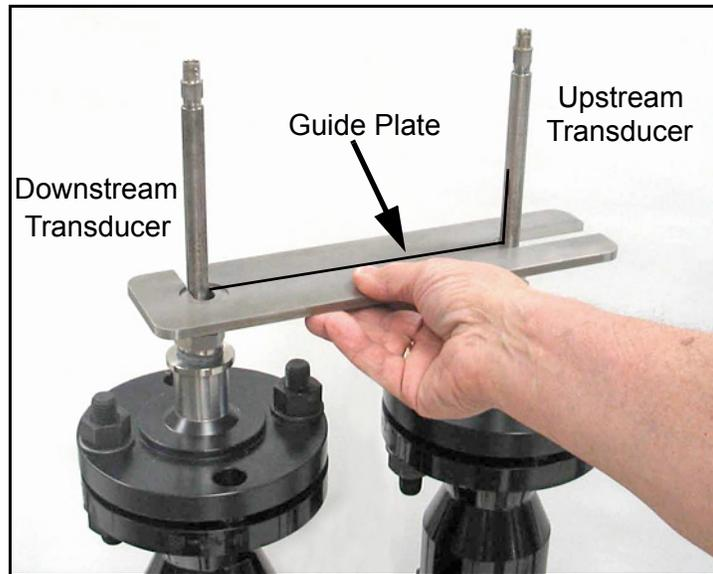

Figure 9: Installing the Guide Plate
2. Slide the end slot of the *guide plate* around the upstream transducer, and rotate the plate until the side slot is around the downstream transducer (see *Figure 9* below). Then, align the mark on the upstream transducer barrel with the guide plate mark. Slightly tighten the upstream barrel flange bolts to maintain the alignment.